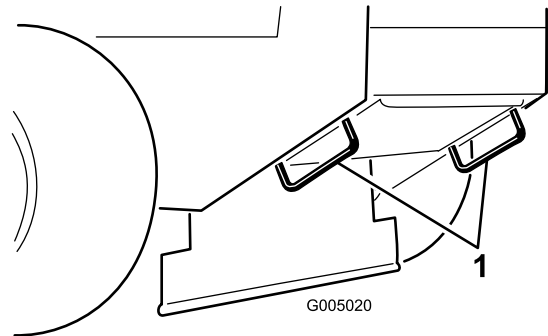

Figure 9
5. Use the metal tie down loops on the machine to securely fasten the machine to the trailer or truck with straps, chains, cable, or ropes (Figure 9).